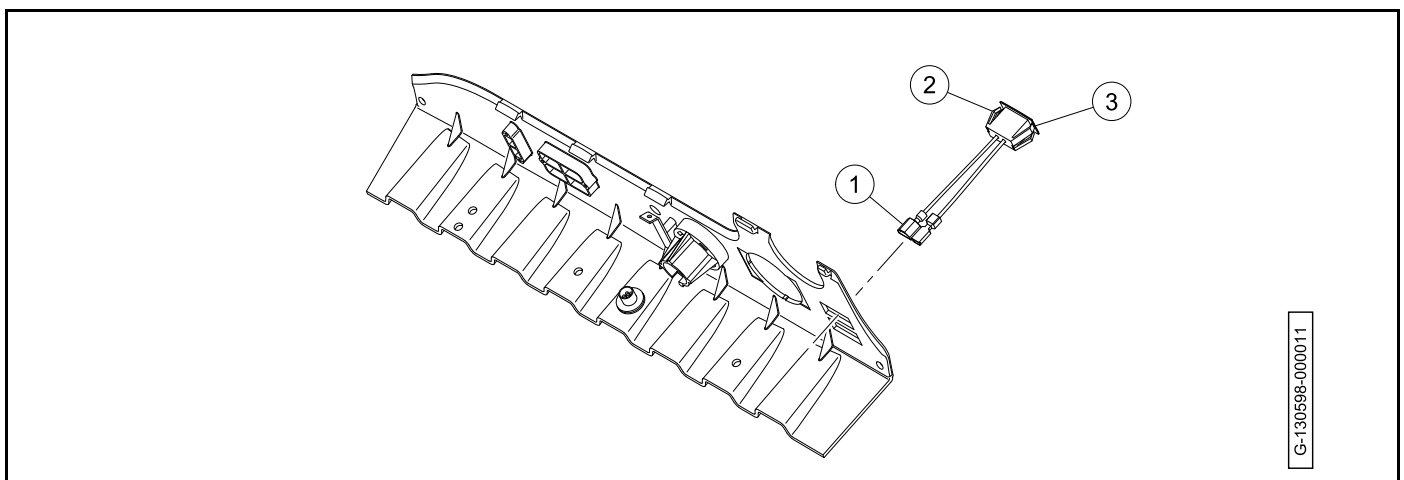

Figure 19-37 Low Oil Warning Light
3. Disconnect the wires (1) (**Figure 19-37, Page 19-33**).
4. Push the retaining tabs (2) and remove the low oil warning light (3).
1. Push the low oil warning light (1) into the hole in instrument panel until retaining tabs engage (**Figure 19-37, Page 19-33**).